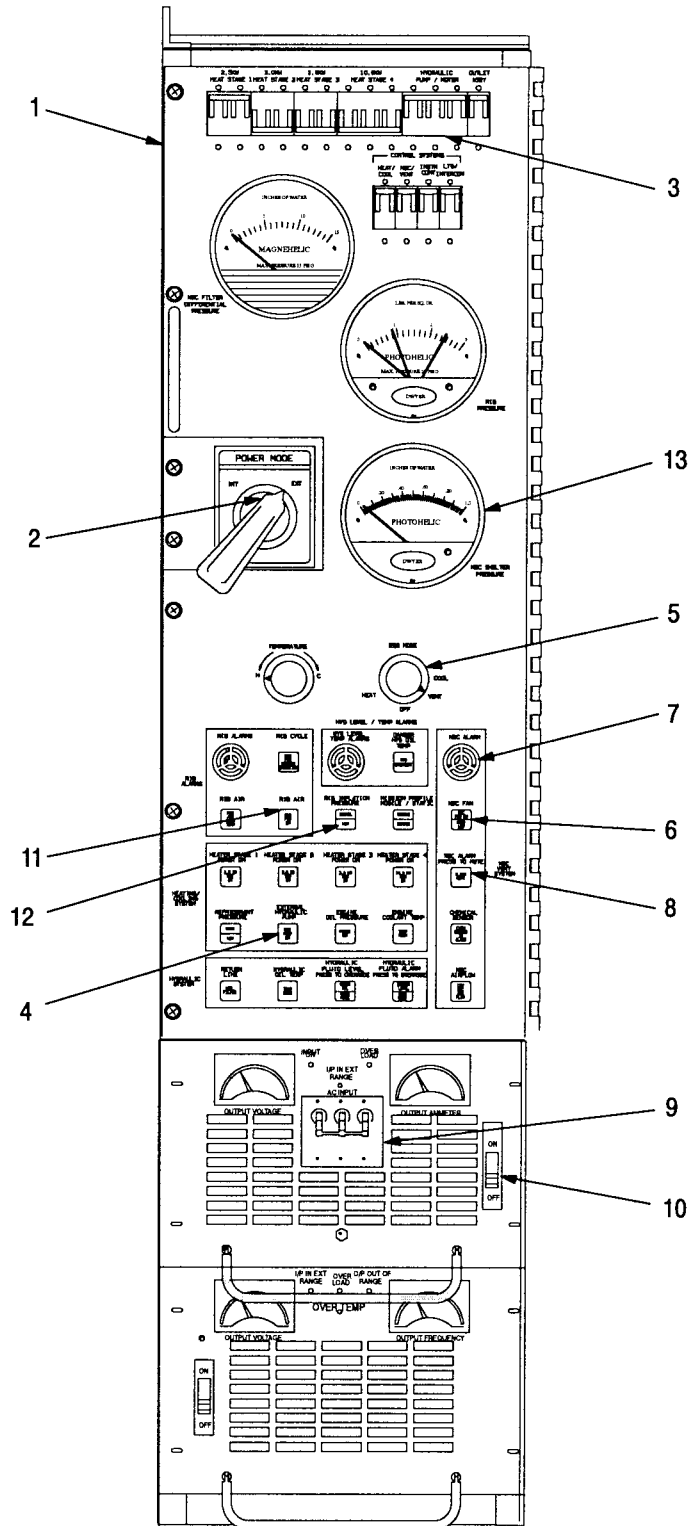

Figure 2-26. Rear Control Panel Settings Using External Power - NBC Conditions
- (1) Put on chemically protective masks.
- (2) Ensure that access door and emergency exit hatch are closed and latched.
- (3) On rear control panel (1, figure 2-26), verify that POWER MODE switch (2) is set to EXT. Ensure the following circuit breaker is set to ON: